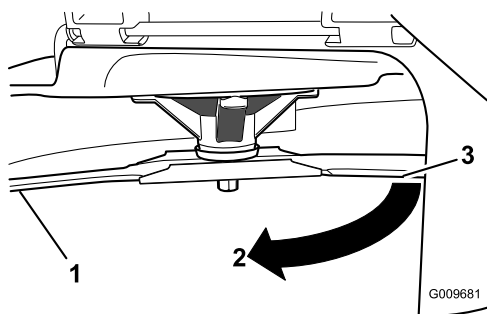

Figure 56
3. Measured distance between blade and the surface (A)
4. Rotate the same blade 180 degrees so that the opposing cutting edge is now in the same position (Figure 56).